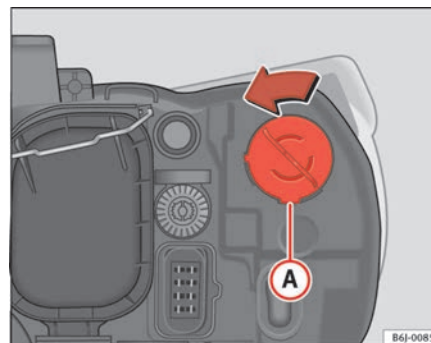

Fig. 145 Indicator light
- Rotate the lamp holder ⇒ fig. 145 **A** to the left and pull it.